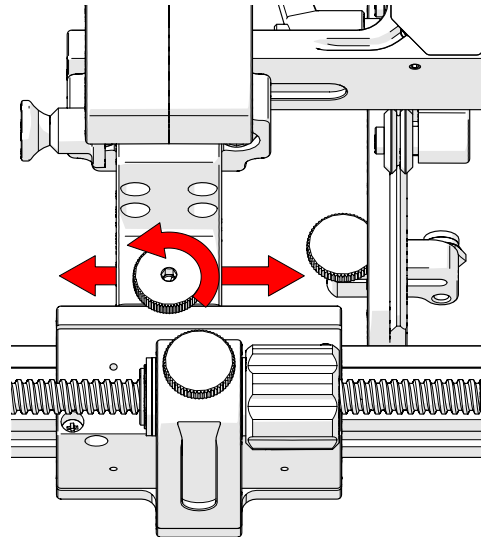

Fig. 44 - Mount to slider pps
3. Loosen the knob to position the probe holder horizontally along the slider pps slider (Fig. 44). Tighten the probe holder adjustment knob when positioning is complete.